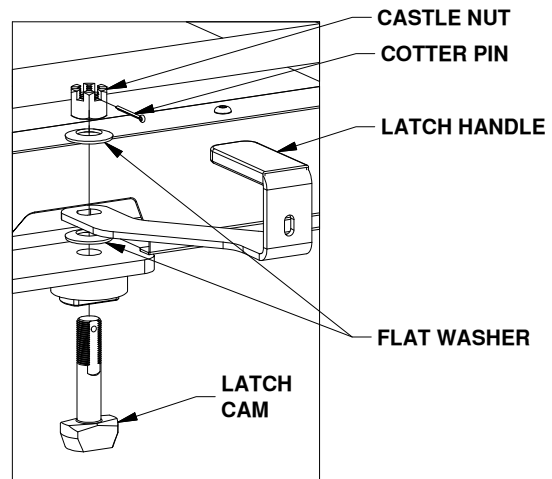

Figure B3: List of latch parts.
3. **Adjust the tension in the latch handle,** for parts list and visual guide refer to Figures B3 and B4.